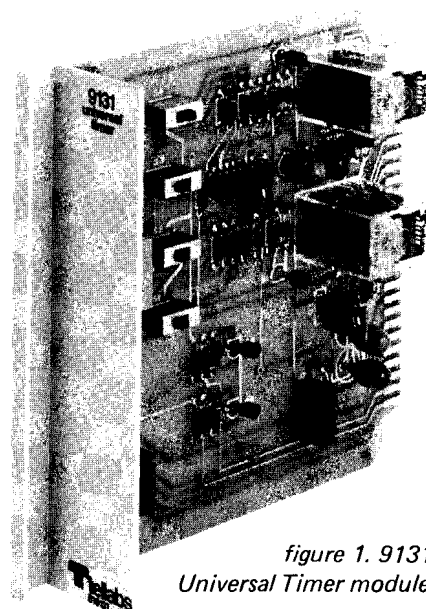

figure 1. 9131
1.01 The Tellabs 9131 Universal Timer module (figure 1) provides a variety of switch-selectable lamp-interruption and timing functions. The 9131 contains two identical and independent timing circuits, each of which is capable of providing lamp flash (indicating incoming ringing) or lamp wink (indicating station hold). Additionally, each timing circuit may be optioned to provide variable operate or release delay rather than repetitive interruption. Other adjustable repetitive interruption rates may also be accommodated.